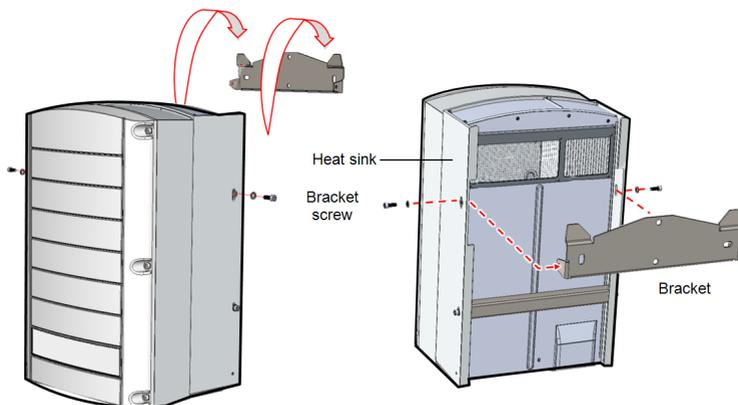

Figure 14: Hanging the Synergy Unit
- For the right or left Synergy Units, insert only one screw through the outer (exposed) side of the unit and into the bracket. Tighten the screws to a torque of 4.0 N\*m (see *Figure 14*).